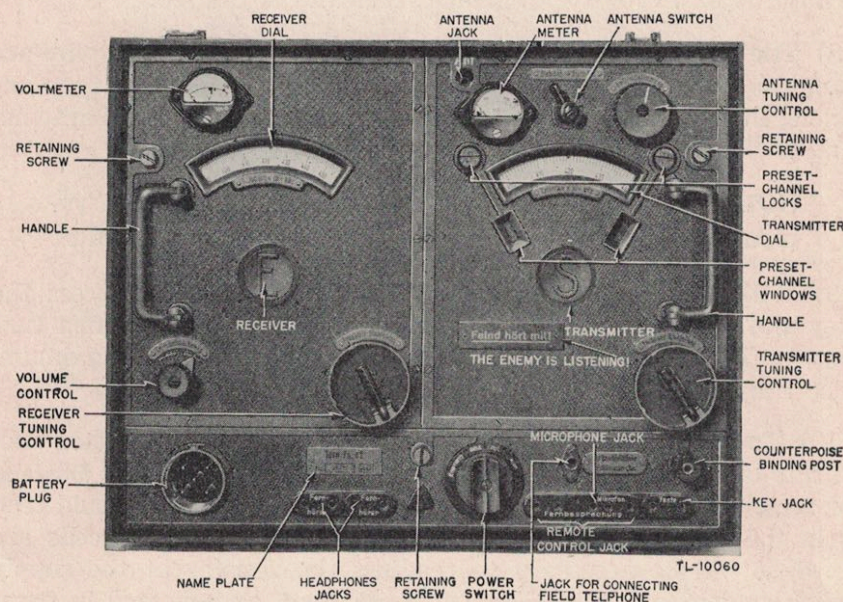
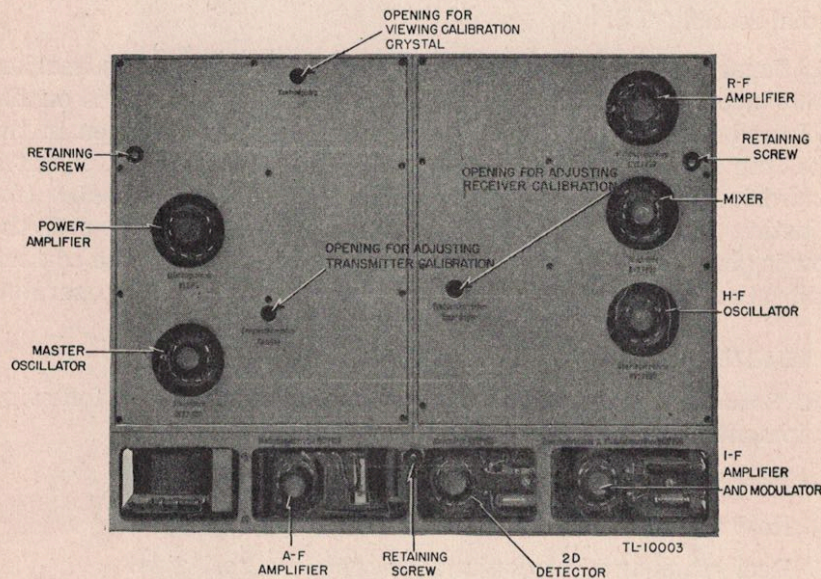

Figure 4. The German radio set, Torn. Fu. b1., front view.
Figure 5. The German radio set, Torn. Fu. b1., removed from case, rear view.
NOTE: Adjust the value of the dropping resistor, installed when dry cells are used for filament supply, so that the filament voltmeter on the set reads 2 volts (fig. 4). This will lengthen the life of the tubes by preventing the application of excessive voltage to the filaments of the tubes.
(8) The set is now ready for operation. See figure 4 for location of jacks and controls.
c. Replace the tubes in order, starting with the antenna and progressing toward the master oscillator in the transmitter. In the receiver, start with the a-f amplifier and work to the r-f amplifier. To change the tubes, it is necessary to remove the set from its case. Do this by loosening the three retaining screws which are on the front panel of the set (fig. 4). Then lift the set from the case by the two handles on the front. Figure 5 shows the rear of the set after it has been removed from its case and the position of all of the tubes.